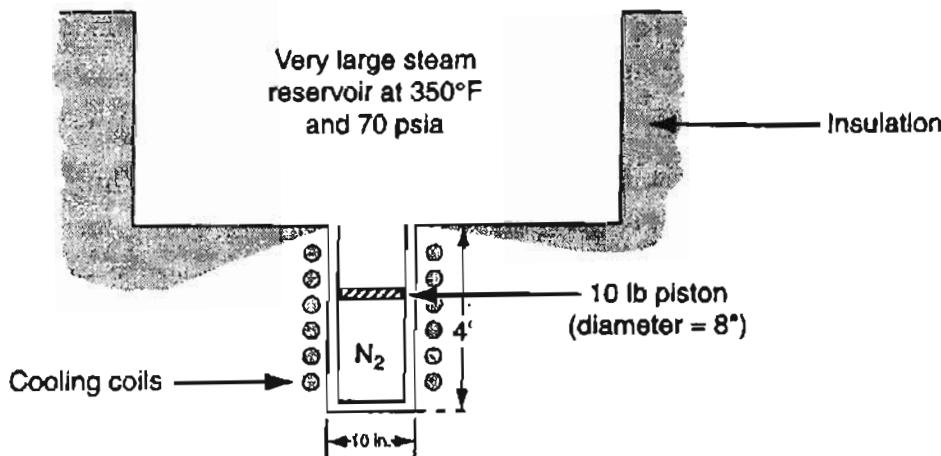

Figure P27.6
- **27.6 Nitrogen is being compressed by a piston as shown in Figure P27.6.